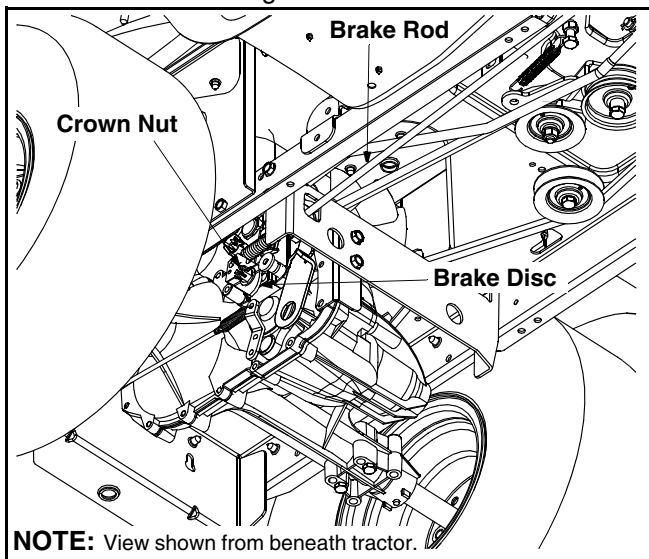

Figure 11
- Looking at the transmission from the right side of the tractor, locate the compression spring and brake disc. See Figure 11.